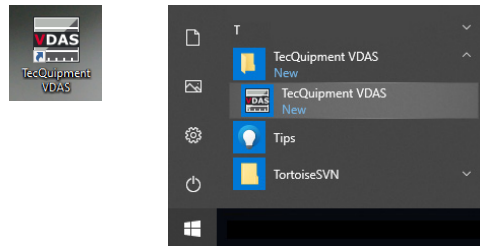

Figure 13 VDAS e-lab Icon and Start Menu Option
1. Once the software has been installed it is launched via the on screen icon or start menu item (Figure 13):
Once the software has been installed, it is launched via the on screen icon or start menu (Figure 13):